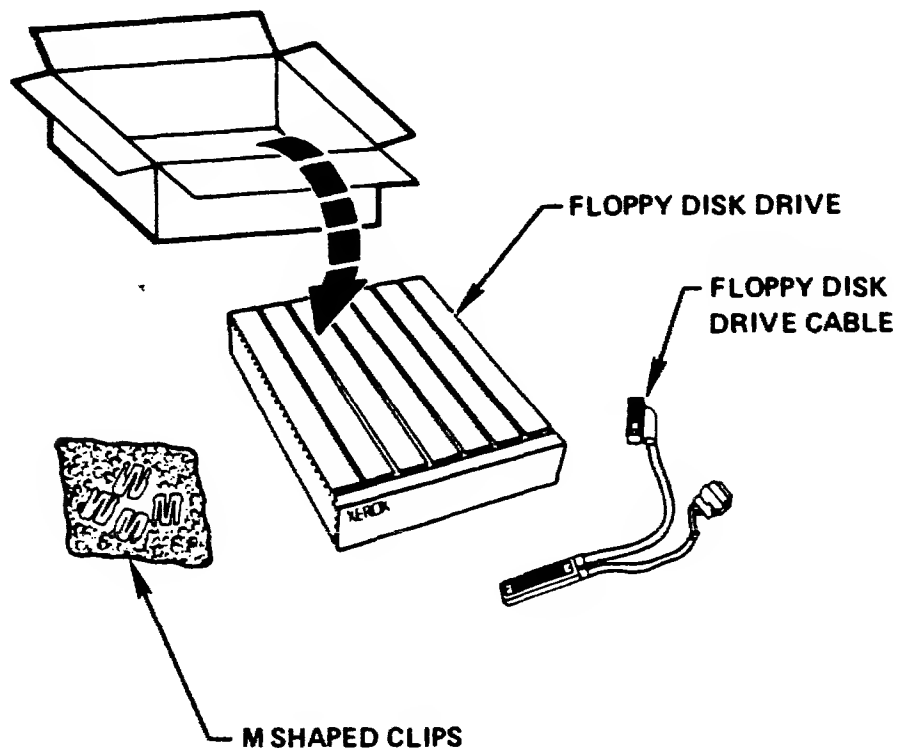

Figure 2-17. Contents of Floppy Disk Drive Box
1. Unpack the floppy disk drive, the floppy disk drive cable, and the four M-shaped clips from the box marked Xerox Floppy Disk Drive (Figure 2-17). Spare M-clips may also be in the box.